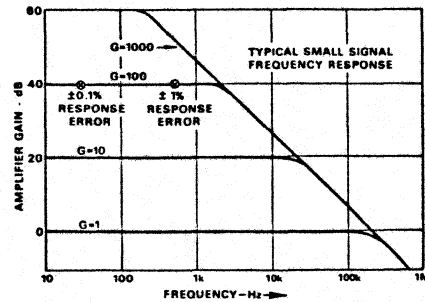

Figure 6. Small Signal Frequency Response (-3dB)
DYNAMIC RESPONSE (See Fig. 6)
**Dynamic Performance:** Settling time and unity gain bandwidth are directly proportional to gain. As a result, dynamic performance can be predicted from the well-behaved curves of Figure 6.